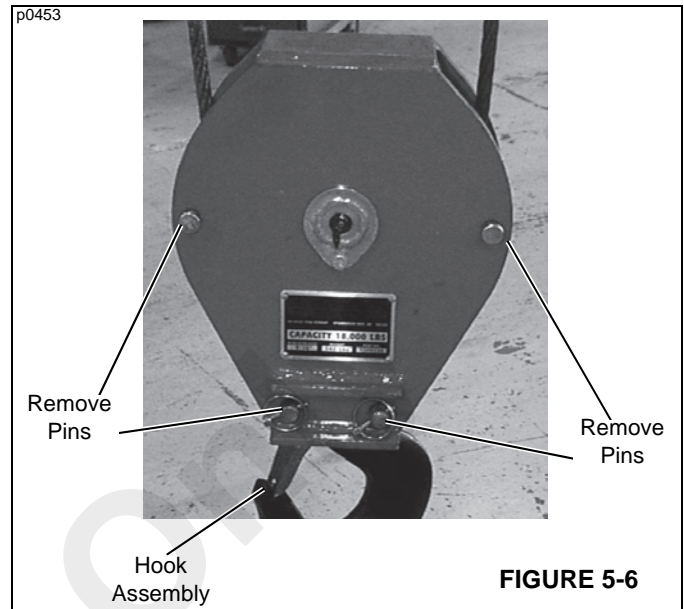

FIGURE 5-6
3. Remove the four pins as indicated in Figure 5-6. Remove the hook assembly.
1. Remove the four pins and hook assembly from the hoist block assembly. See Figure 5-6.